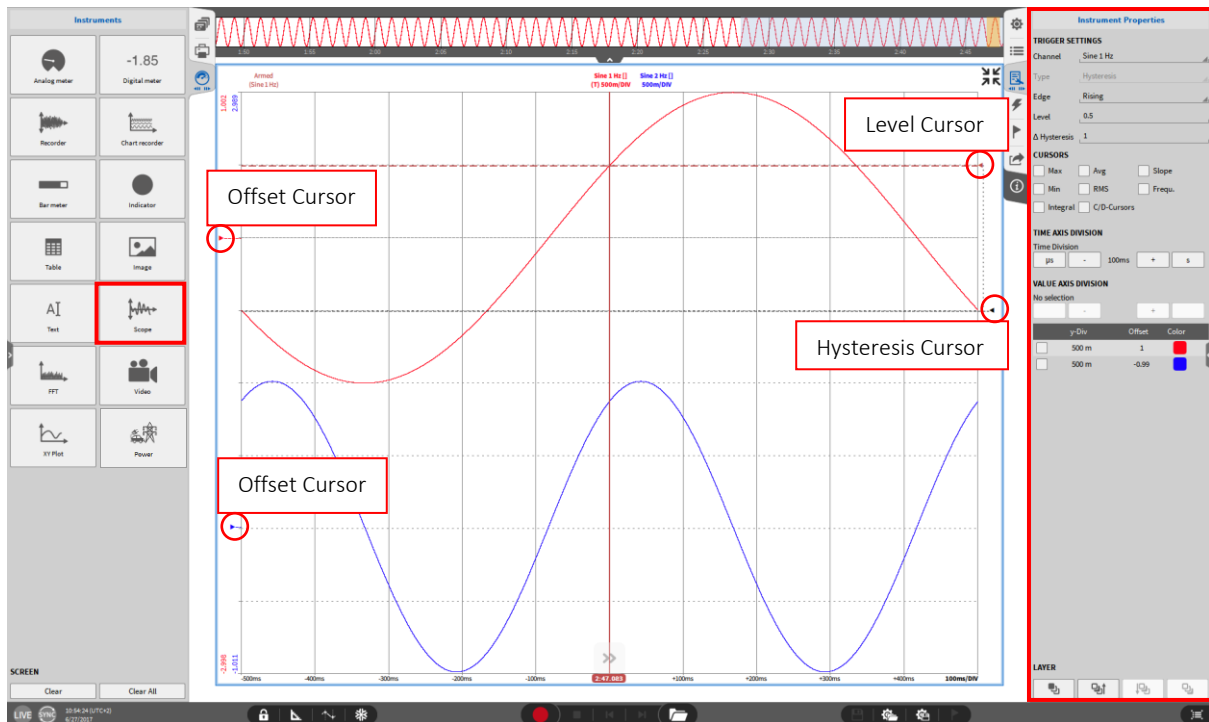
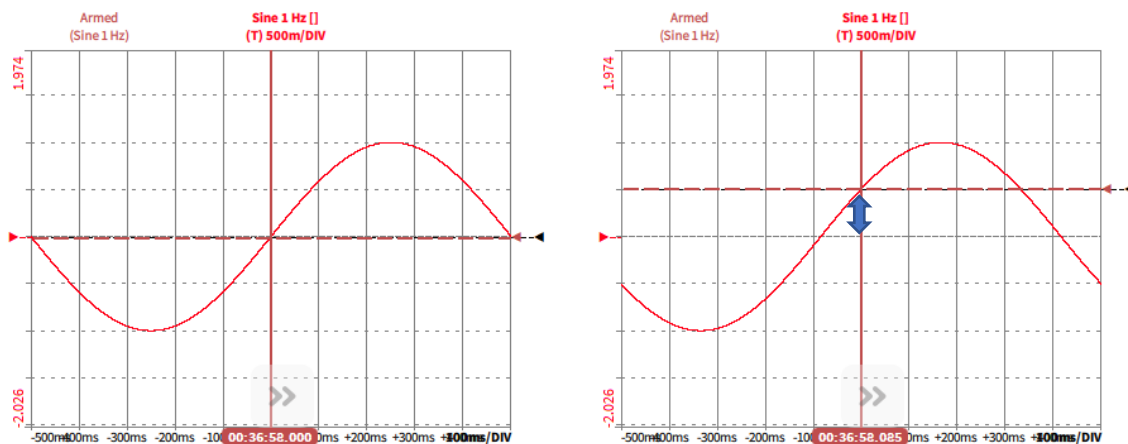

Figure 6-25: The Scope – Overview
Figure 6-27: Rising trigger edge with level 0 (left) and level +0.5 (right)
- In the *Level* selection, the user can define the level of the trigger. The level can also be set with the *Level* cursor (see Figure 6-25) and must be within the signal range. Figure 6-27 shows a 1 Hz sine wave with an amplitude of ± 1 which is triggered with a rising edge on level 0 and level +0.5.
- In the Δ *Hysteresis* selection, the user can define a level the signal must pass before a new trigger event occurs. Setting a hysteresis level avoids unwanted trigger events that may occur caused by noise around the trigger level. The Δ *Hysteresis* level can also be set with the *Hysteresis* cursor (see Figure 6-25).
- The Offset Cursors (see Figure 6-25) can be used to displace the displayed signals vertically. Using this function will not affect the phase accuracy.